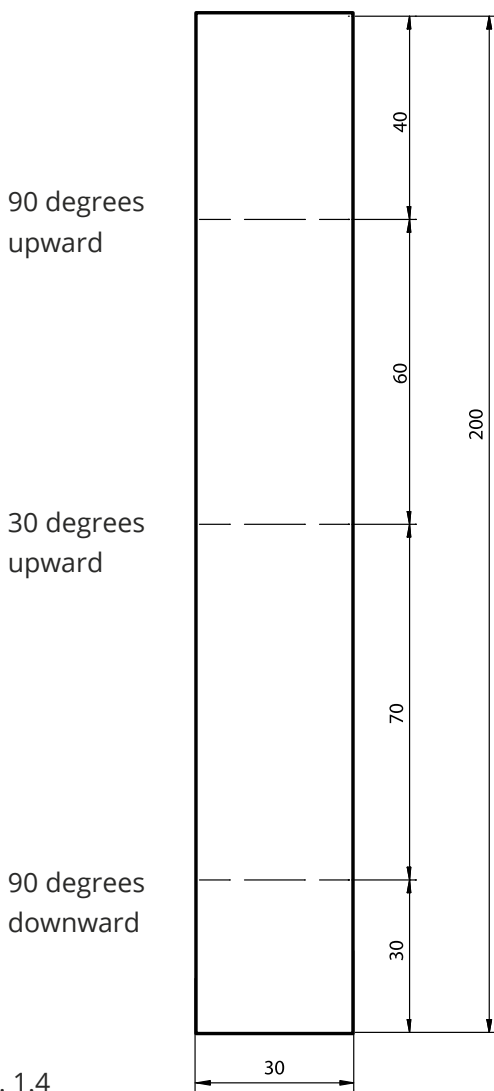

Fig. 1.4
- When setting chain sizes, opt for 'from bending line to bending line'. (Fig. 1.4)